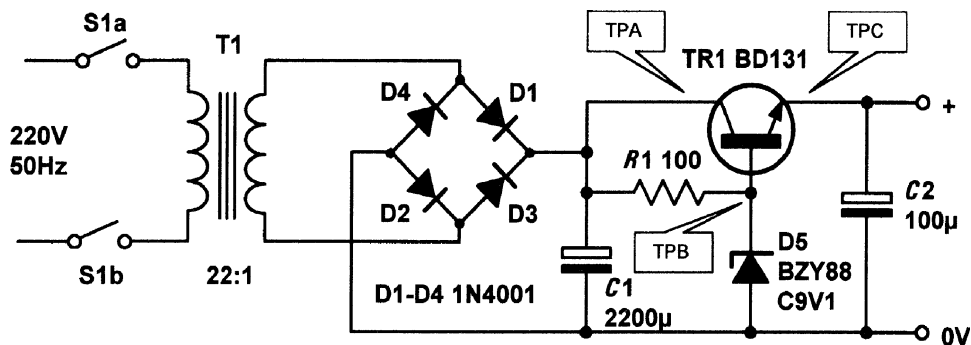

Figure 6.23
- 6.4 The circuit of a d.c. power supply is shown in Fig. 6.23. Determine the voltages that will appear at test points A, B and C.
- 6.5 In Fig. 6.23, determine the current flowing in $R1$ and the power dissipated in $D5$ when the circuit is operated without any load connected.
- 6.6 In Fig. 6.23, determine the effect of each of the following fault conditions: